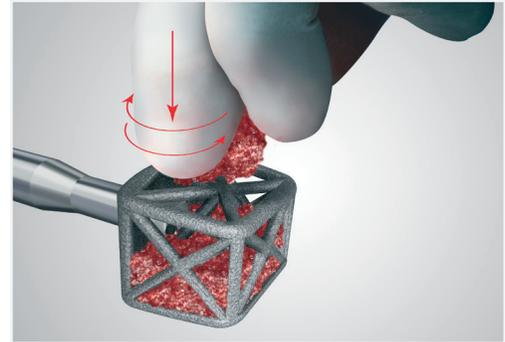

Figure 6
- ▲ Pack the implant with autologous and/or allogenic bone graft. For best results, cut or morselize the autologous bone into 1–2mm sized particles. Place the morselized bone into the top or bottom web structure (top and bottom are interchangeable). In a downward, circular motion, massage the bone particles into the implant (Fig. 6).